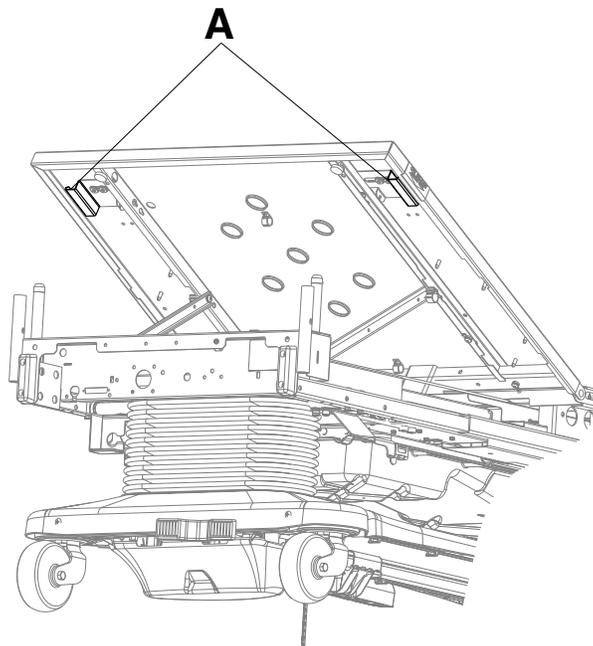

Figure 6 – Activating the CPR release
You can find the two CPR release levers at the head end section on both the left and right sides of the Fowler (A) (Figure 6).